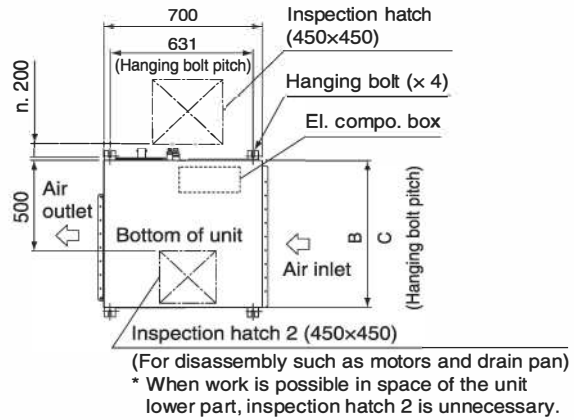

Fig. 2-2
1. Inspection hatch 1 and 2 (450 × 450) for the el. compo box and a minimum space of 300 mm at the bottom of the product. (Refer Fig. 2-2)